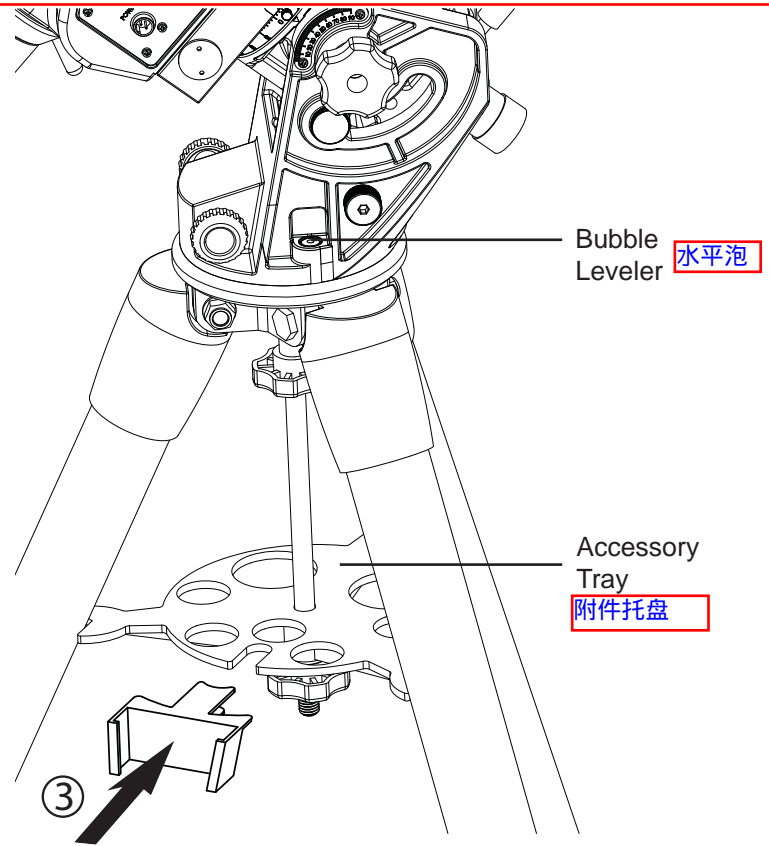

Fig. 1.3b
2. By referring to the bubble leveler on the mount, level the mount by adjusting the length of the tripod legs. (Fig. 1.3b) 2. 参照赤道仪上的水平泡，通过调整三条支架腿的长度将赤道仪本体调节至水平。（详见图示 1.3b）
3. Insert the hand controller holder into the U-shaped opening on the accessory tray. (Fig. 1.3b) 3. 把控制器手柄支架插入附件托盘的U型缺口处。（详见图示 1.3b）